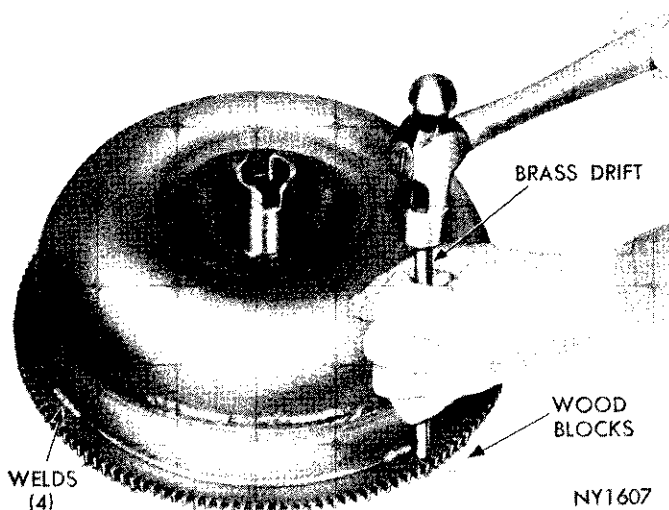

Fig. 31—Removing Starter Ring Gear
(1) Cut through weld material at rear side of ring gear with a hack saw or grinding wheel (Fig. 31). Be careful not to cut or grind into the front cover stamping.
(2) Scribe a heavy line on front cover next to front face of ring gear to aid in locating the new gear.
(3) Support converter with the four lug faces resting on blocks of wood. **The converter must not rest on the front cover hub during this operation.** Using a blunt chisel or drift and hammer, tap downward on ring gear near welded areas to break any remaining weld material (Fig. 31). Tap around ring gear until it comes off the converter.